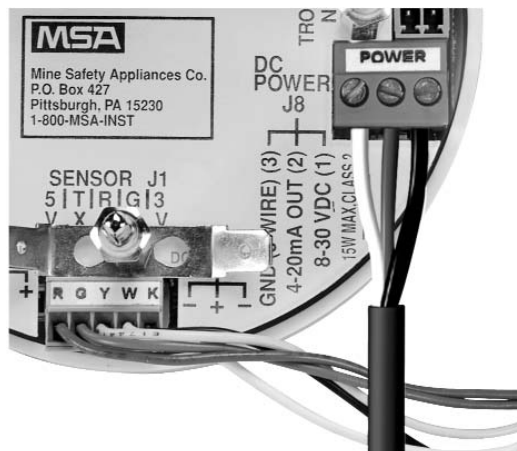

Figure 2
3. Connect 8 to 30 VDC power lead to J8-1 (FIGURE 2).
6. Connect the sensor module to J-1 on the main pc board (FIGURE 2).